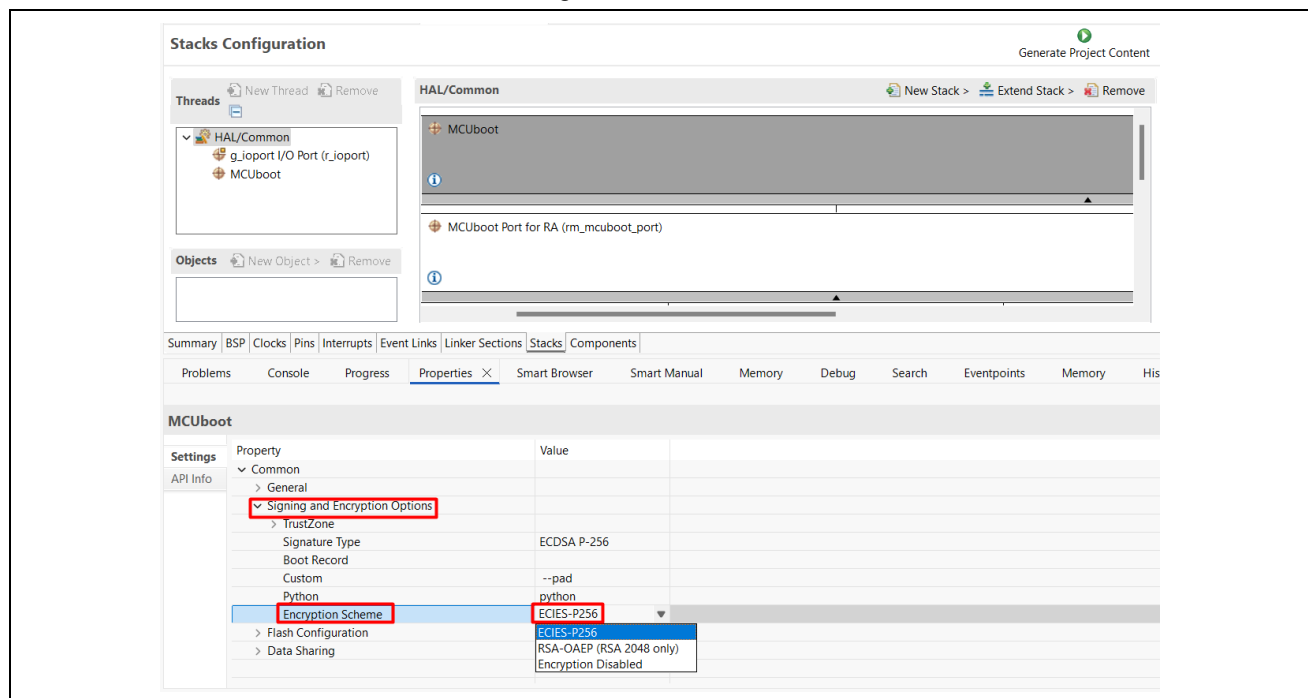

Figure 25. Choose ECIES-P256
2. Navigate to the **Stacks** tab, select **MCUboot** stack, and in the **Properties** panel set the **Encryption Scheme** to **ECIES-P256** as shown in Figure 25.